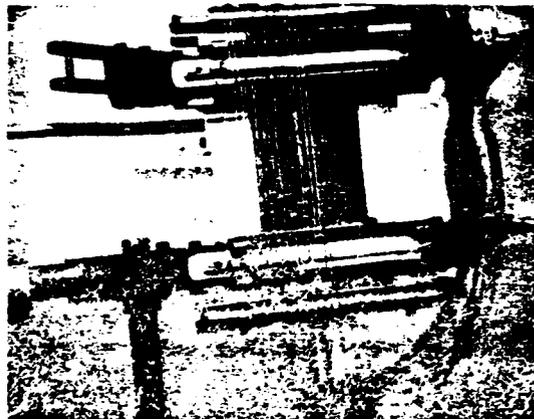

FIG. 34 FANNED REMAINING WIRE BUNDLE (PAR. 4.331)
4.331 Fan the remaining T & R wires respectively, in proper sequence to the right and into the comb slots. There should be no wires remaining to be fanned. See Fig. 34 (32 wire mandrel).